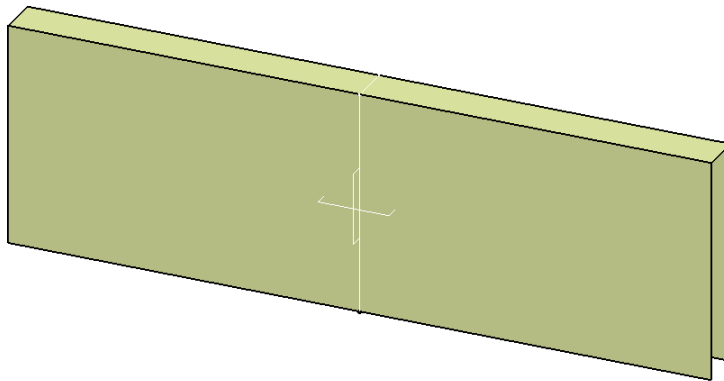

Figure 17-105 Extruded base surface
5. Choose the **OK** button from the **Extruded Surface Definition** dialog box. Figure 17-105 shows the resulting extruded base feature.